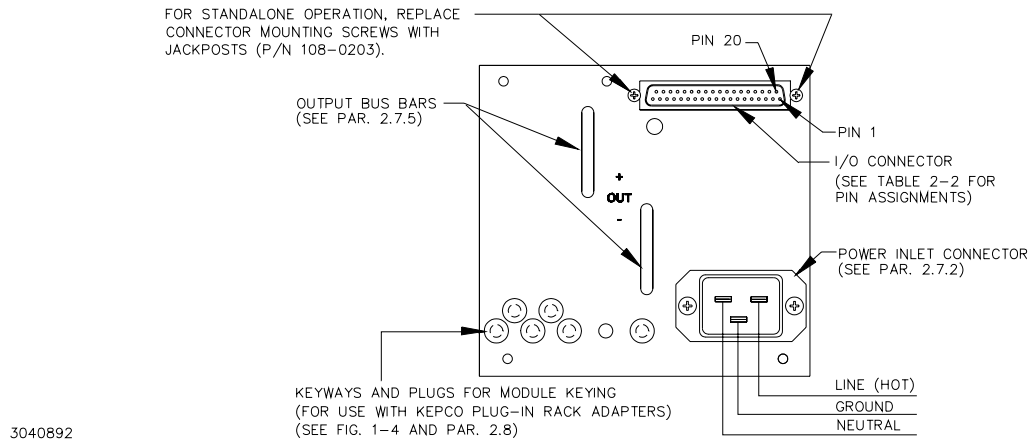

FIGURE 2-3. HSP SERIES REAR PANEL CONNECTIONS
c) **Rear Panel:** Refer to Figure 2-3 and Table 2-1.
The rear panel of the HSP power supply is equipped with an IEC 320 style recessed power inlet connector which provides interface to a 3-wire safety line cord via a polarized mating plug. Kepco offers as accessories (see Table 1-3) both a user-wired mating connector and a prewired linecord set, the latter configured for North American applications. Terminal assignment follows internationally accepted conventions (see Figure 2-3). It is the user's responsibility to ensure that all applicable local codes for source power wiring are met.